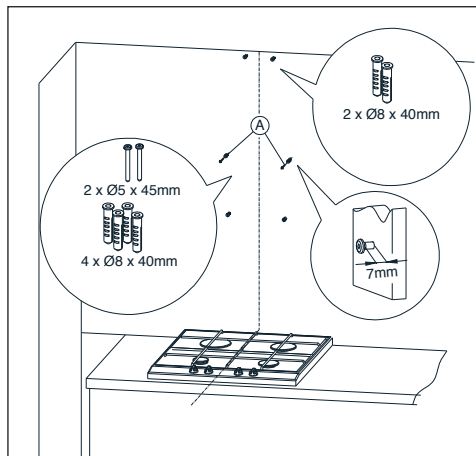

Fig.5 Screw plugs assembly
2. Into the openings, insert the screw plugs. In two openings, insert the screw plugs. In two openings, insert the screw plugs with A screw also the screws (leaving 7 mm of screw length outside the screw plug, Fig.5).